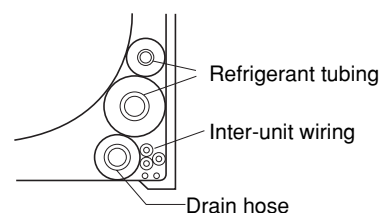

Fig. 3-36
- (5) Assemble the refrigerant tubing, drain hose and inter-unit wiring as shown in Fig. 3-36.